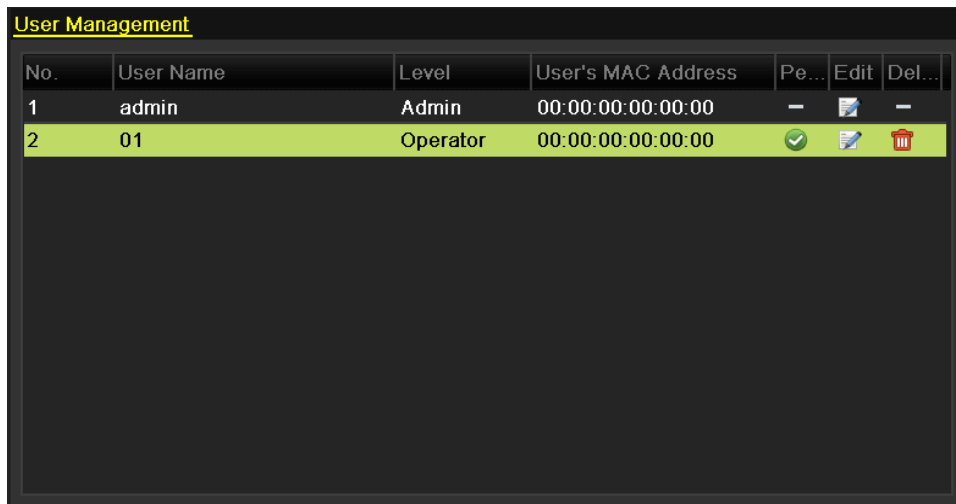

Figure 13-6 Added User Listed in User Management Interface
- Click **OK** to save the settings and go back to the User Management interface. The added new user will be displayed on the list, as shown in Figure 13-6.